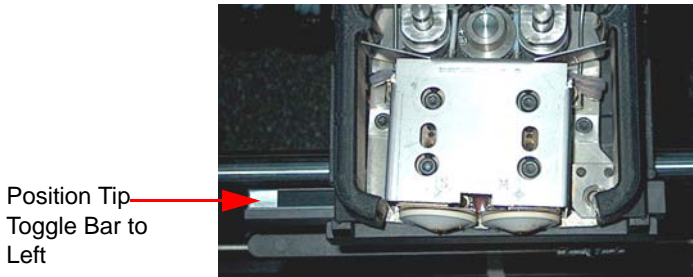

Figure 16: Position Tip Toggle Bar for Adjustment of Cleaning Brush
9. Push the Tip Toggle Bar to the left. This makes the Model (Right Tip) the 'active' tip (Figure 16).